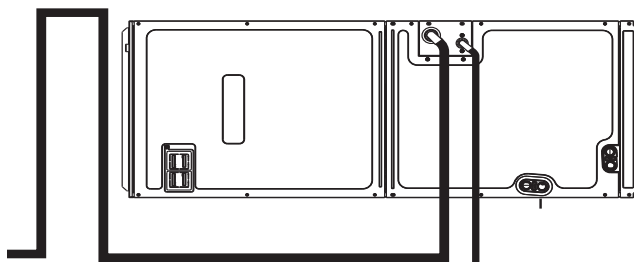

Figure 4-1 Indoor Unit with Inverted Suction
3. An inverted suction line trap must be installed on the suction line just before the inlet to the indoor unit (see Figure 4-1). The top of the inverted loop must be slightly above the top of the indoor unit coil and can be created simply by brazing two 90° long radius elbows together if a bending tool is unavailable. Properly support and secure the inverted loop to the nearest point on the indoor unit or adjacent structure.